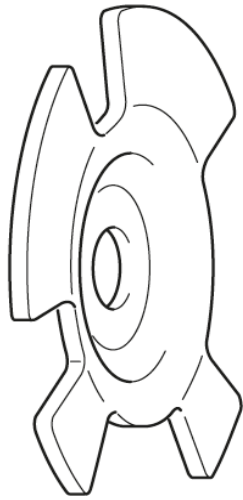

Fig. 3: Curved encoder wheel
**Sprockets made of pressed steel:** The encoder wheel has a curved face (Fig. 3). This eliminates the need for a spacer ring.